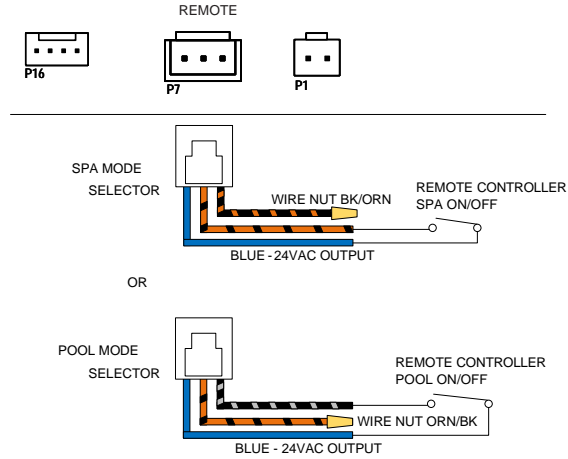

Figure 56. 2-Wire Remote Harness Installation
- On the 3-wire remote harness, connect the BLUE wire to one side of the remote automation controller and connect the other side to either the ORANGE/BLACK wire for "SPA" operation or the BLACK/ORANGE wire for "POOL" operation. See Figure 56.
- Install the "3-wire Remote Harness" to the "P7" connector and turn power "ON" to the heater. See Figure 56.